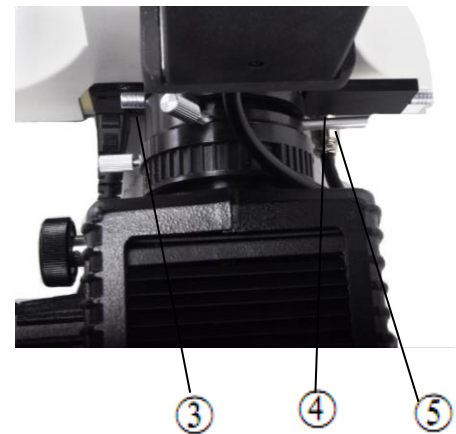

Fig.18
2. Connect the plug ④ of the illumination column firmly to its jack ⑤ on the rear of the microscope.(Fig.18)
3. Connect one end of the power cord ② into its connector ③ on the rear of the microscope.(Fig.18)